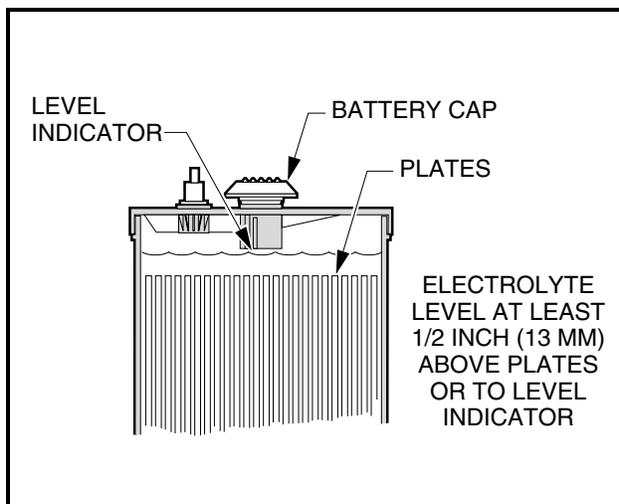

Figure 20 Electric Battery Electrolyte Level
2. The electrolyte level in the batteries should be checked weekly (**Figure 20**). Add water only after charging unless the electrolyte level is below the top of the plates. In this case, add just enough water to cover the plates, charge and then check the level again. Never charge batteries if plates are exposed above electrolyte level. For best battery life, add only distilled water. **See following NOTE.**